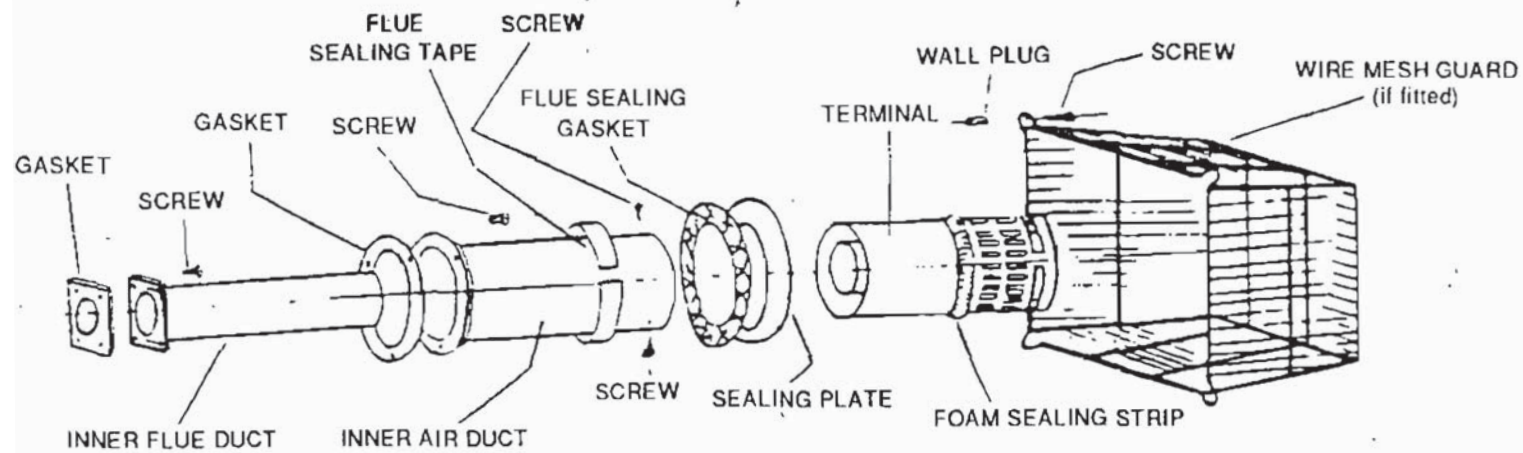

FIG. 2A
2.0 UNPACKING (Figs. 2A and 2B)